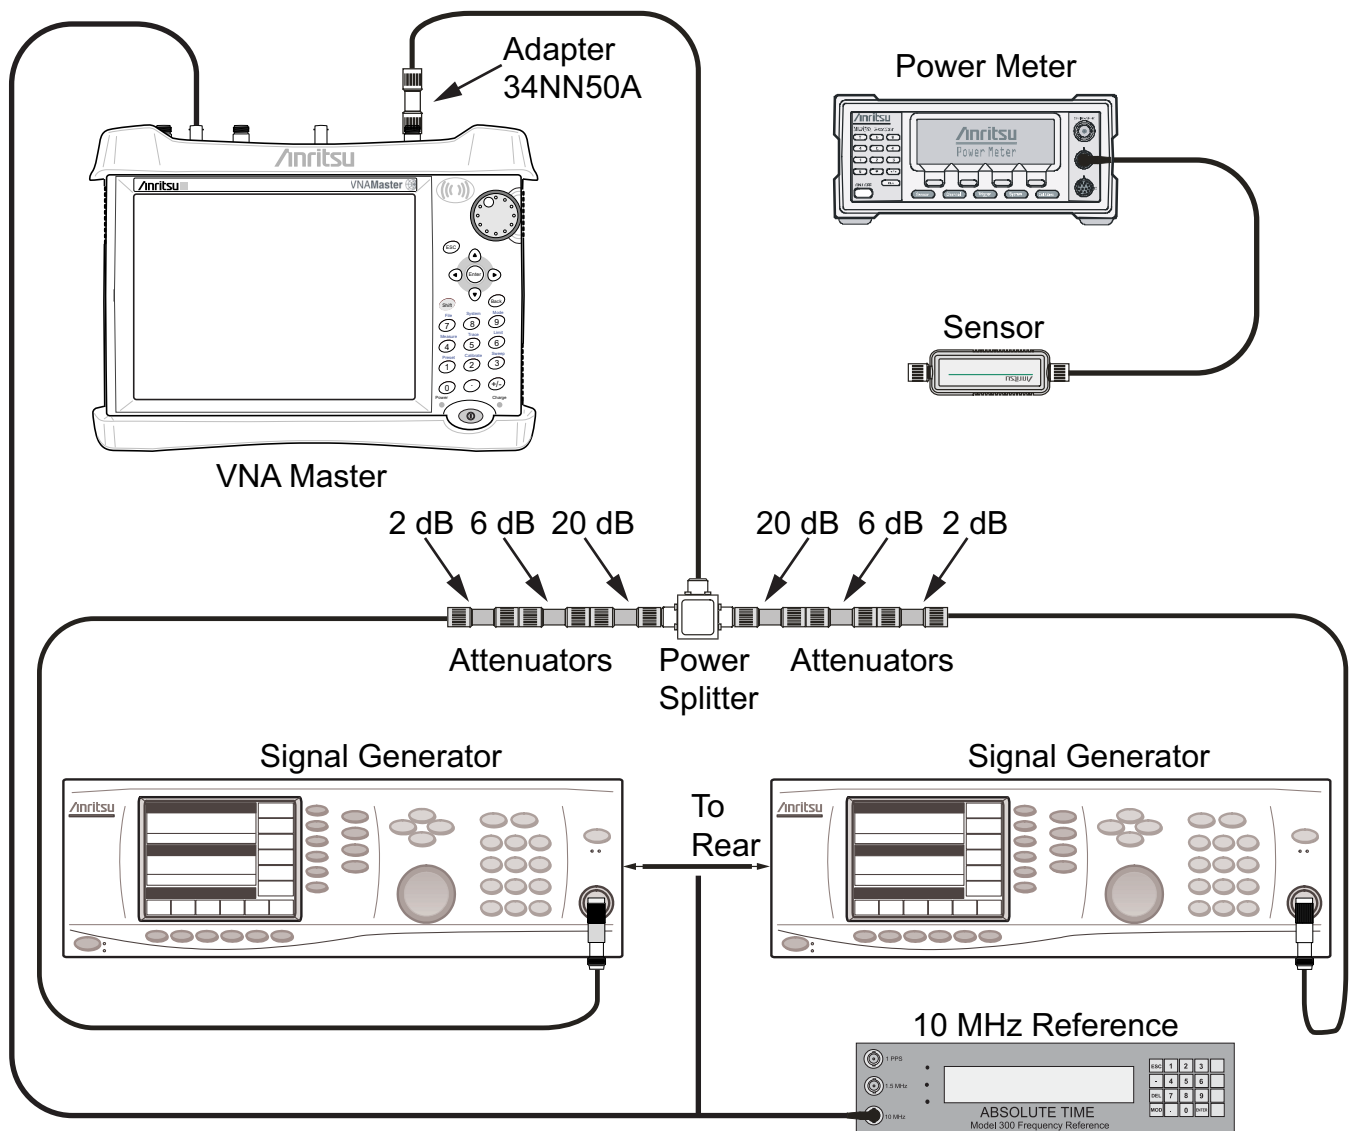

Figure 3-9. Third Order Intercept (TOI) Measurement Setup
11. Press the **Shift** key, the **Sweep (3)** key, **Sweep Mode** submenu key and then the **Performance** submenu key.
14. Disconnect the power sensor from the output of the power splitter and connect the power splitter output to the MS203XB RF In connector through the Anritsu Model 34NN50A adapter as shown in Figure 3-9.
31. Disconnect the power sensor from the output of the power splitter and connect the power splitter output to the MS203XB RF In connector through the Anritsu Model 34NN50A adapter. Refer to Figure 3-9.
34. Press the **Shift** key and then the **Trace (5)** key. Press Trace A Operations, and set # of Averages to 2.